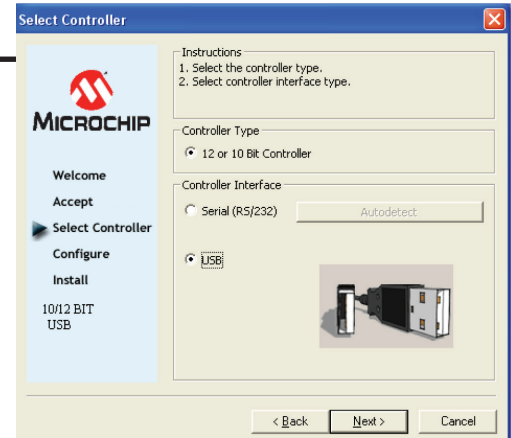

Figure 1
5. If selecting USB (Figure 1), note that the O/S will load a generic driver; ignore, and continue to install the TSHARC driver to insure correct calibration of the system. It will also insure proper functionality and configuration of the touch controller.